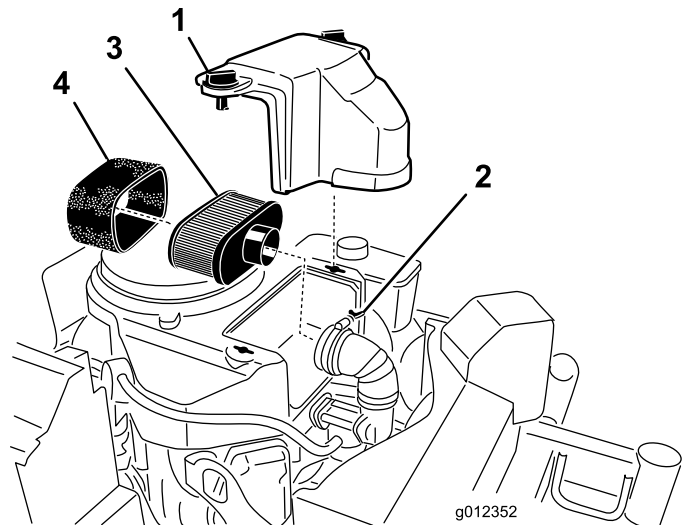

Figure 30
3. Clean around the air cleaner to prevent dirt from getting into the engine and causing damage (Figure 30).
4. Unscrew the cover knobs and remove the air cleaner cover (Figure 30).
5. Unscrew the hose clamp and remove the air cleaner assembly (Figure 30).
6. Carefully pull the foam element off the paper element (Figure 30).
1. Do not clean the paper filter, replace it (Figure 30).
1. Carefully slide the foam element onto the paper air cleaner element (Figure 30).
2. Place the air cleaner assembly onto the air cleaner base and secure it with the 2 wing nuts (Figure 30).
3. Place the air cleaner cover into position and tighten the cover knob (Figure 30).